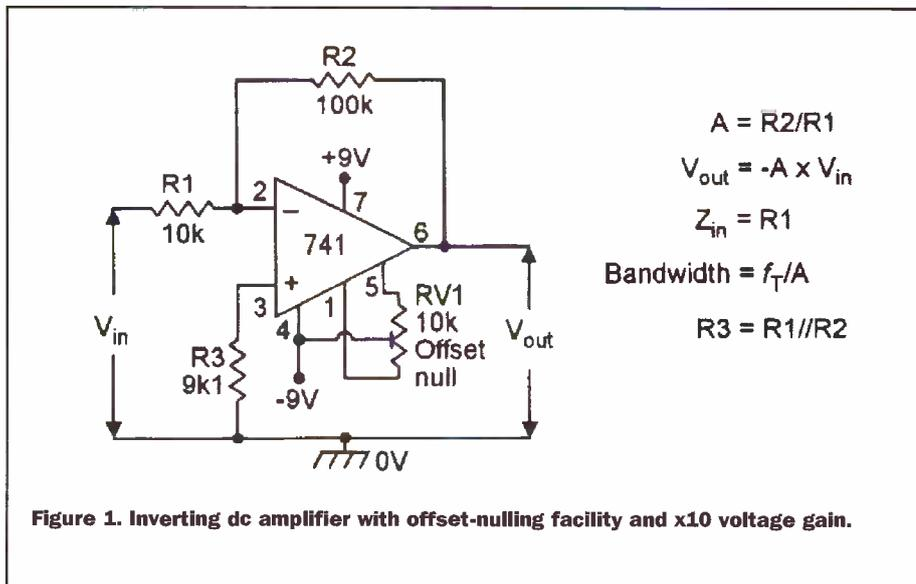
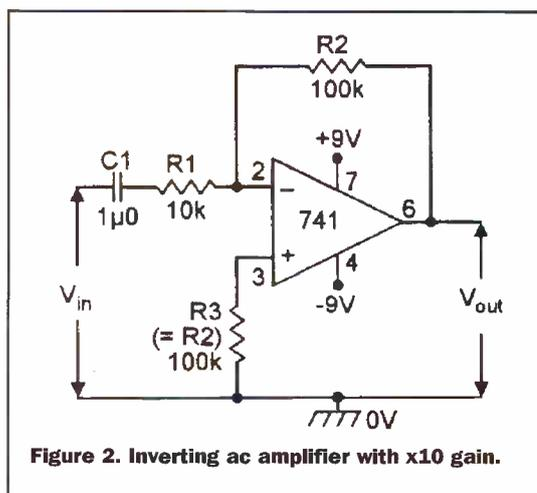

Figure 1. Inverting dc amplifier with offset-nulling facility and x10 voltage gain.
Figure 2. Inverting ac amplifier with x10 gain.
Figure 1 shows the practical circuit of an inverting dc amplifier with an overall voltage gain (A) of x10 (= 20dB), and with an offset nulling facility that enables the output to be
Note that the Figure 1 circuit will continue to function if the RV1 offset-nulling network is removed, but its output may offset by an amount equal to the op-amp's input offset voltage (typically 1mV in a 741) multiplied by the closed-loop voltage gain (A) of the circuit. So for example, if the circuit has a
gain of x100, the output may be offset by 100mV with zero input applied. Also note that the circuit's bandwidth equals the f_T value (typically 1MHz in a 741) divided by the 'A' value, e.g., the Figure 1 circuit gives a bandwidth of 100kHz with a gain of x10, or 10kHz with a gain of x100.
The Figure 1 circuit can be adapted for use as an ac amplifier by simply wiring a blocking capacitor in series with the input terminal, as shown in Figure 2. Note in this case that no offset nulling facility is needed, and that (for optimum biasing) R3 is given a value equal to R2.